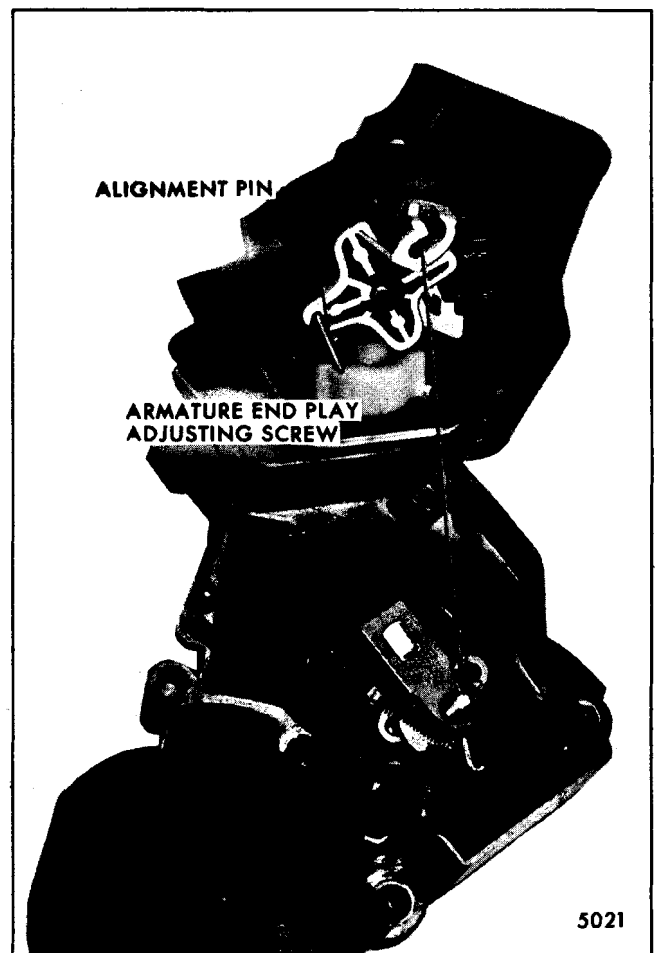

Fig. 2-65-Installing Washer to Pump
NOTE: Wiper Motor Gear must be in PARK position (Fig. 2-65) to assemble pump to wiper motor.
3. Position pump on wiper so that slot in 4-lobe cam fits over the gear drive pin (Fig. 2-65). Secure pump to gear housing and remove locator pin, temporarily connect wiring connector.